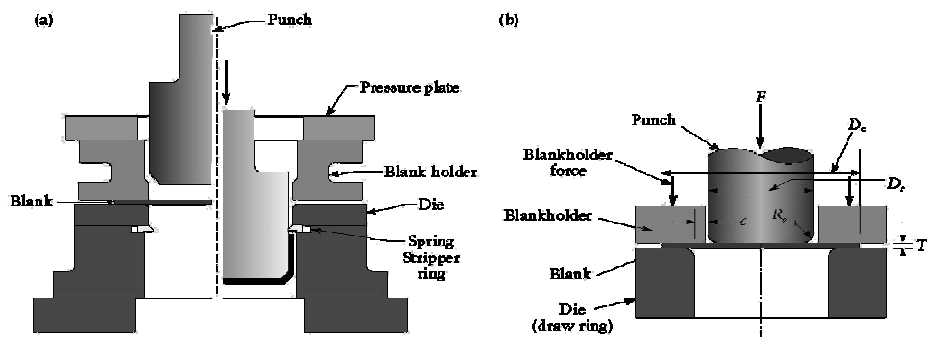

Fig. 3 Schematic of the Drawing process.
- **Deep Drawing:** forming process causes the sheet metal to undergo the desired shape change by drawing without failure. Ref fig.3